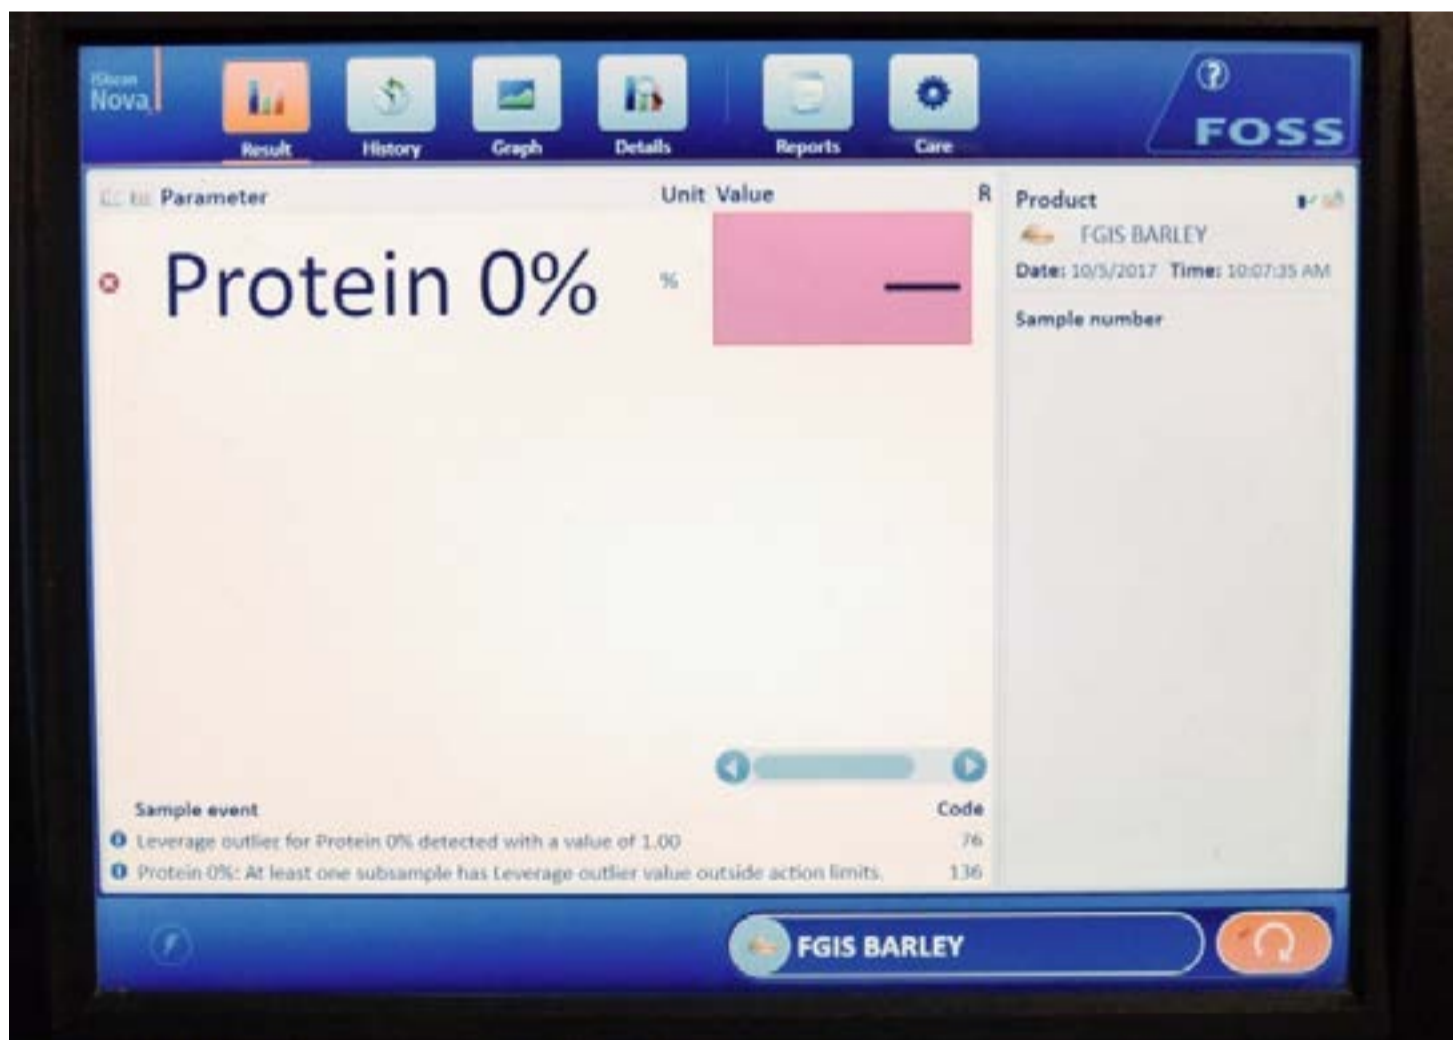

Figure 2. FOSS Nova display showing an analysis with an outlier.
- (1) The Infracore Nova is also designed to give an outlier indication warning that a result may be in error. If an outlier occurs, the instrument will not display a result and the result field will be highlighted in red. Any outlier information will be displayed to the right of the result field and below the results under Sample event, refer to figure 2. Outlier indications should rarely occur.
- (2) Sample Temperature outside range of 0 – 40 °C or 32 – 104 °F for the NTEP only calibrations.
- (b) The Sample event log at the bottom of the display will list messages like the following example. (Refer to figure 2)